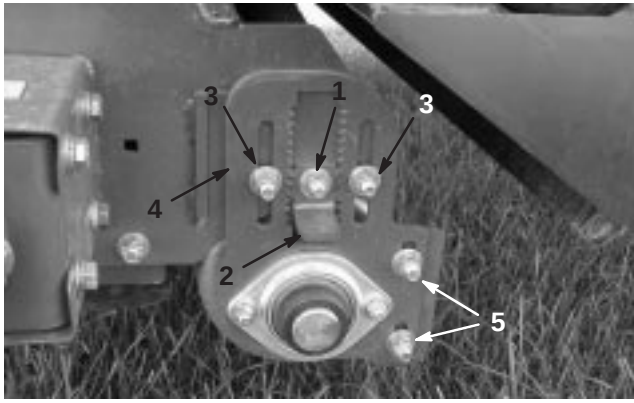

Figure 28
3. Loosen the locknut on height adjustment key (Fig. 28) so it can be pulled out approximately 1/2 inch.
- Loosen the roller height adjustment locknuts (Fig. 28).
- Pull out the height adjustor key and move the rear roller up or down by sliding the roller height adjusting plate to the desired height (Fig. 28).
The roller scraper (Fig. 28) should be adjusted so there is 1/16" clearance between the scraper and the roller. Loosen the roller scraper adjusting nuts, position roller as desired and tighten nuts.